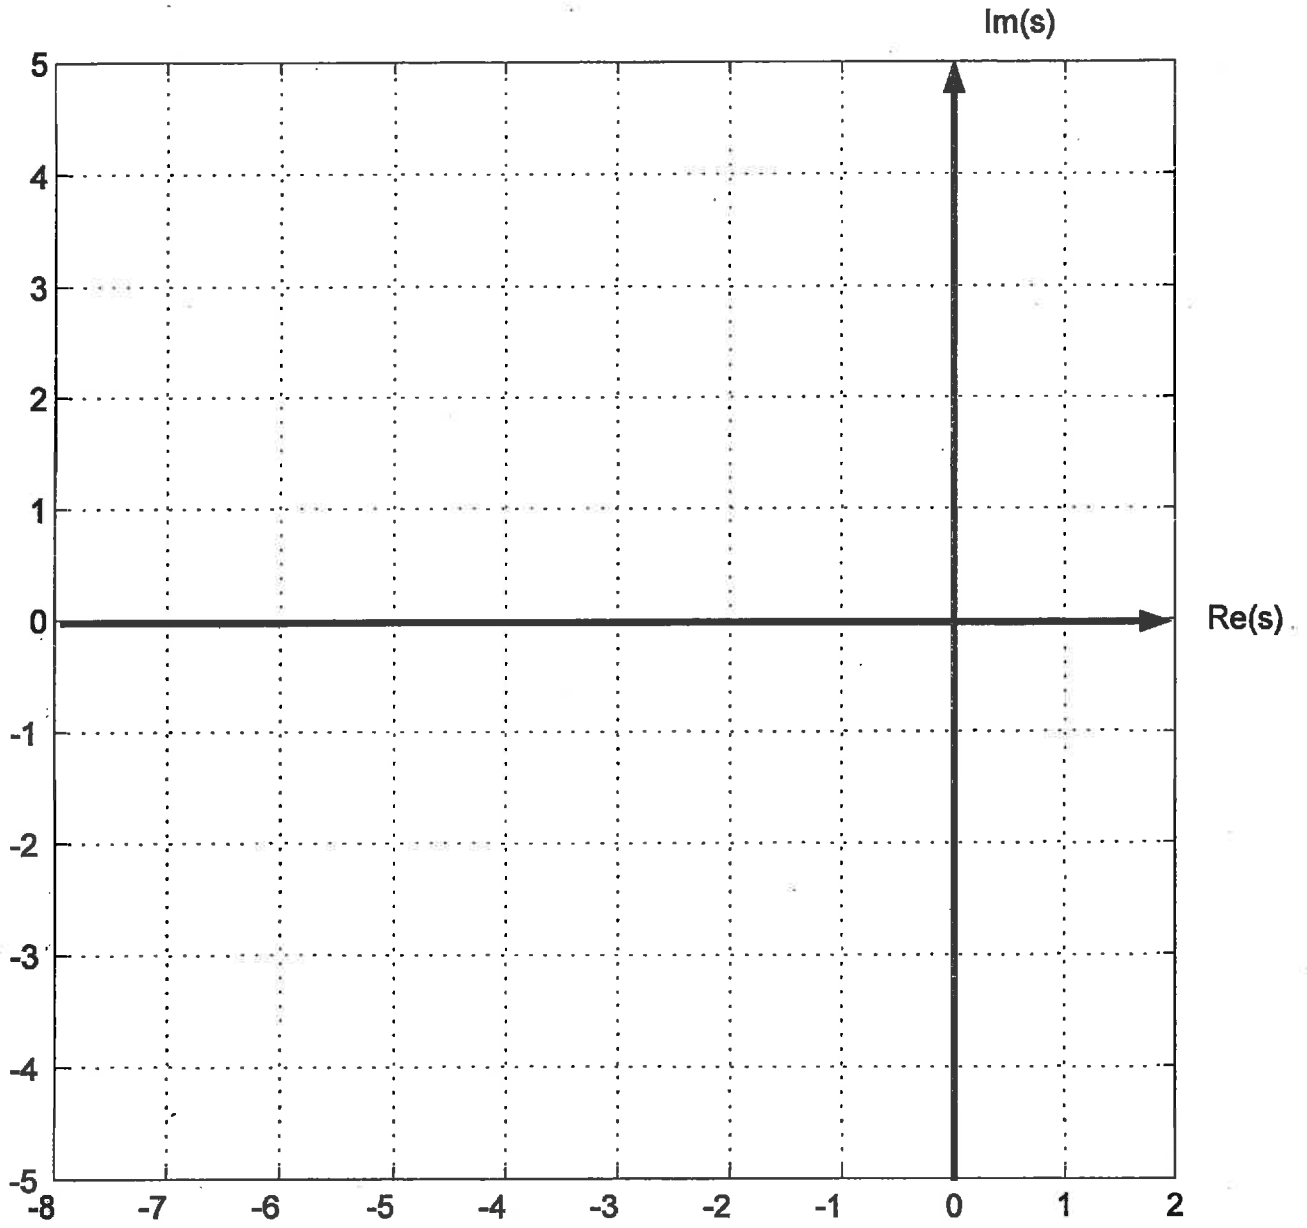

Figure Q4.2
- 1) **(8 marks)** In the space provided in Figure Q4.2, sketch a detailed Root Locus for the system, including crossovers with the imaginary axis, if any, break-away/break-in coordinates, if any, asymptotes, if any, a centroid, etc. Place the Root Locus parameters in Table Q4.1.